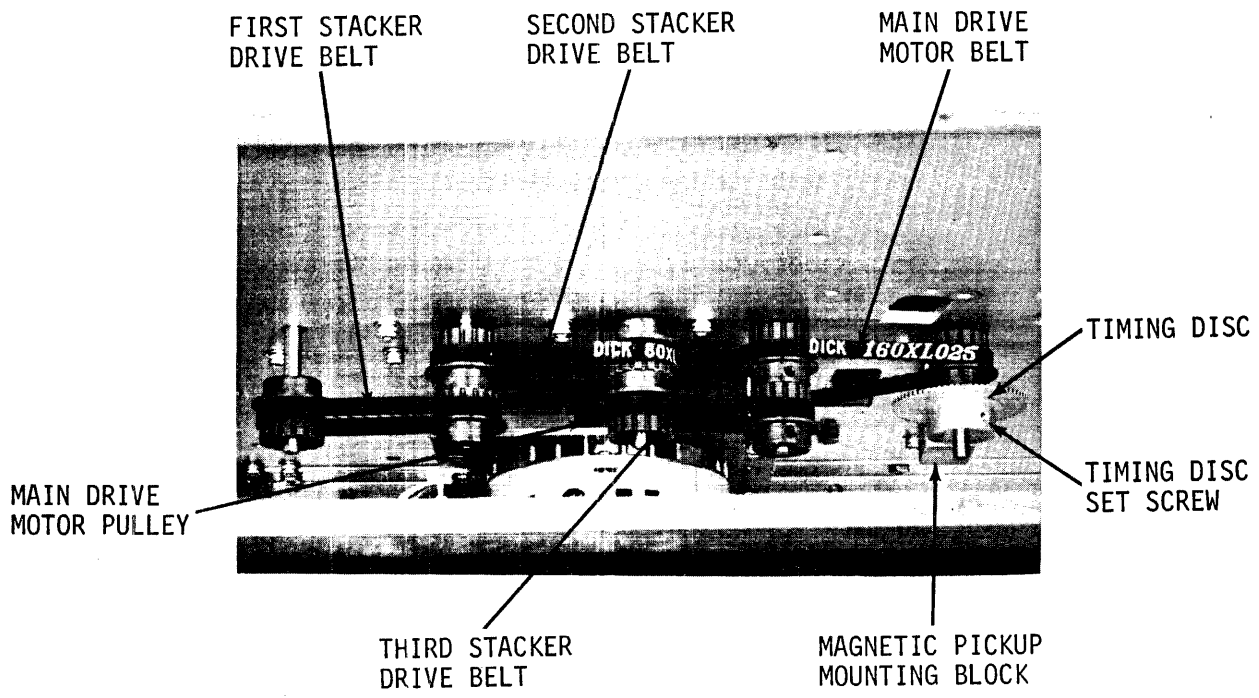

Figure 9-4. Stacker Drive Train Belt Arrangement
- d. Using a 5/64 Allen wrench, LOOSEN one 8 x 32 set screw in timing disc, figure 9-4.
- i. Remove main drive motor belt, figure 9-4.
1. Place belt over main drive motor pulley, figure 9-4.
- c. Rotate third and fourth stacker roller pulleys and belt pulling downward; remove third and fourth stacker roller pulleys and third stacker drive belt, figures 9-4 and 9-5.